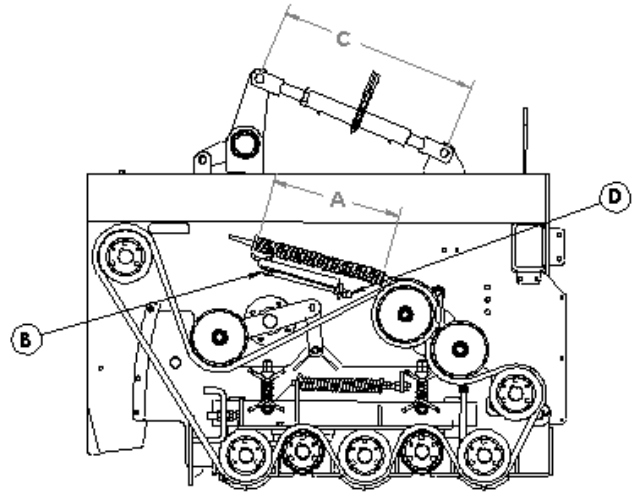

Figure 7-29: Grabroll Bed Angle and Rear Drive Belt Adjustment
2. Adjust dimension (C), shown in Figure 7-29.